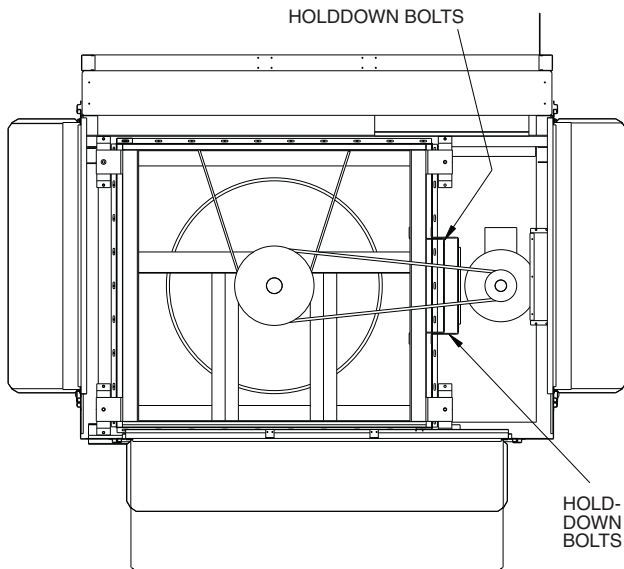

Fig. 49 — Return Fan Motor Plate Adjustment
1. Loosen holddown bolts. (See Fig. 49).